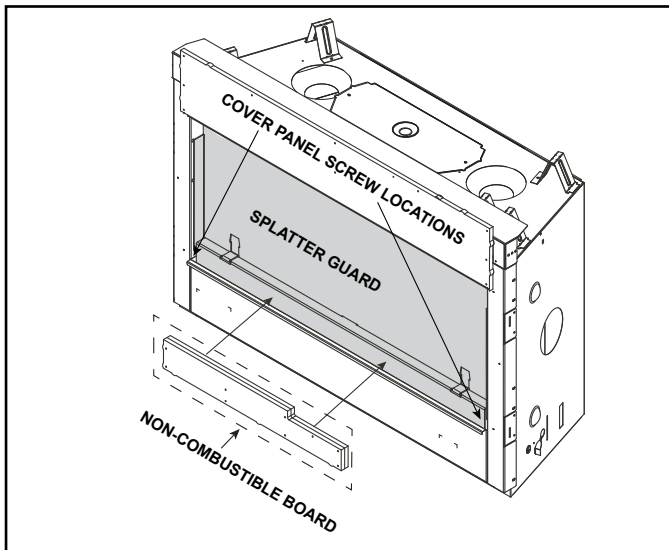
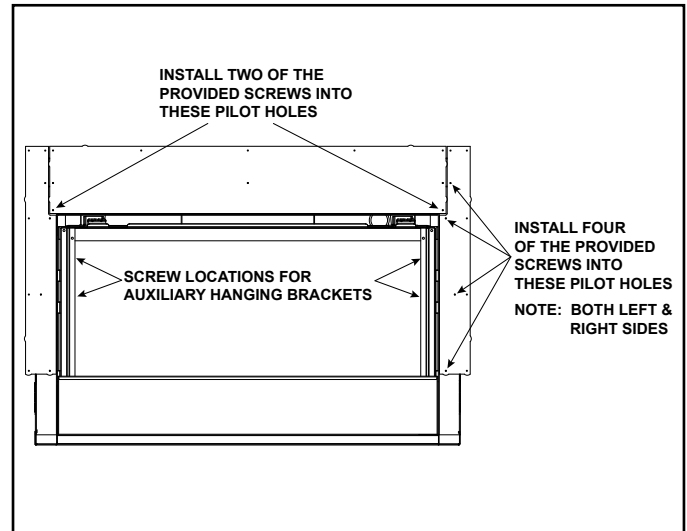
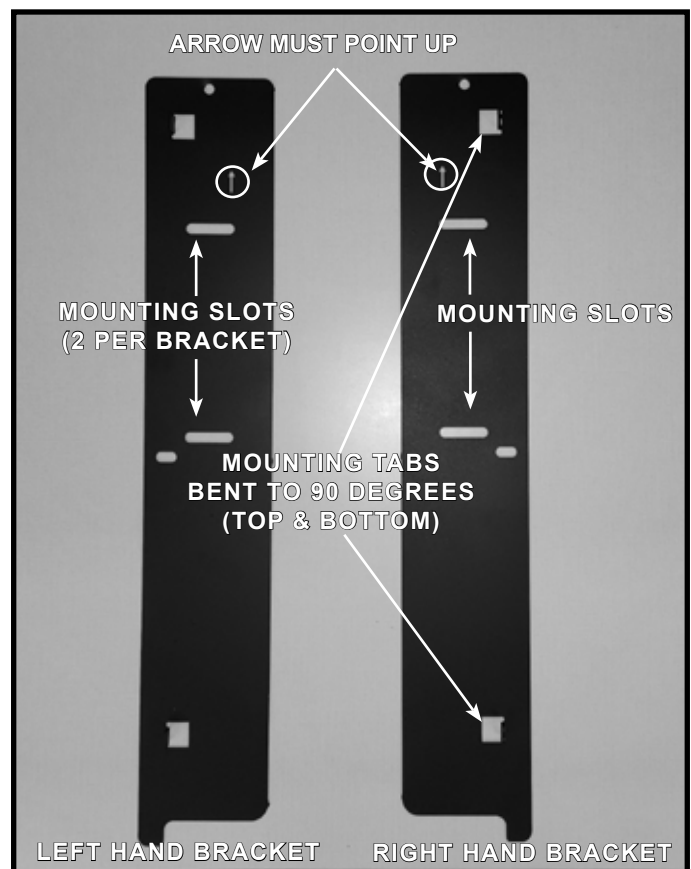

Figure 6.7 Shipping Position - Non-Combustible Sides and Auxiliary Hanging Brackets
Figure 6.8 Installation of the Side Non-Combustible Components
Figure 6.9 Auxiliary Hanging Brackets
This model ships with the required top, left and right non-combustible board. The top non-combustible board has been pre-installed at the factory with three screws. The left and right side non-combustible boards are shipped next to the non-combustible board inside the cardboard splatter guard in front of the appliance. See Figure 6.7.
4. Further secure the top non-combustible board by installing screws into the pilot holes located in the upper left and right corners of the top non-combustible board as shown in Figure 6.8.
5. Install the left and right non-combustible components with four of the provided Phillips screws. See Figure 6.8. After all non-combustible material has been installed, remove the small package of sheet metal screws from the manual bag. Reinstall the lower cover panel. Be sure to "hook" it onto the appliance. Use two screws from the package to fasten the top sides of the cover panel to the appliance. The holes from the cover panel should align with the holes in the sides of the appliance. See Figure 6.7.
1. Loosen both shoulder bolts on each auxiliary hanging bracket. See Figure 6.8 and Figure 6.9. Pull the brackets away from the appliance to aid with finishing material installation.